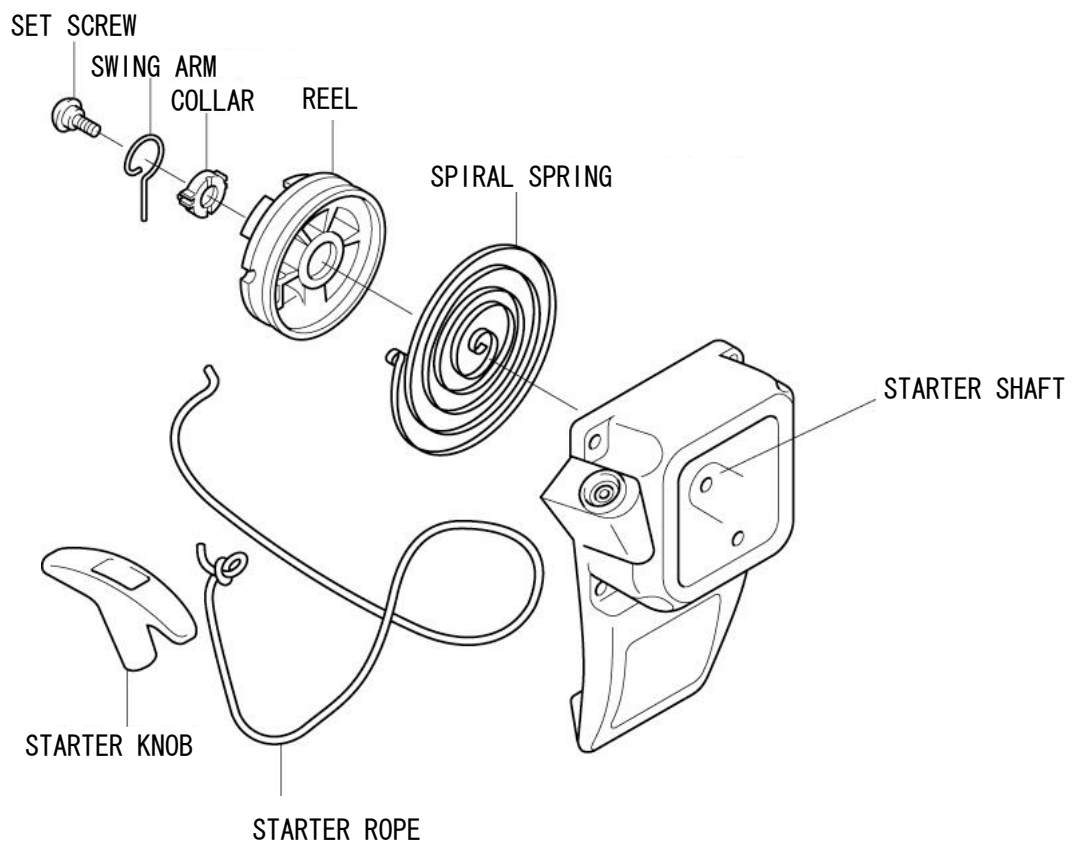

Fig.6-2
- (3) Remove the parts as shown in Fig.6-2.
(3) Before inserting the REEL in the STARTER CASE, wind the STARTER ROPE around the REEL three turns in the direction of the arrow shown in Fig. 6-5, draw out the third turn of the STARTER ROPE from the REEL cut-out, and fit the REEL completely inside the STARTER CASE so that the SPIRAL SPRING inner end can hook on the hook. then, hold the STARTER ROPE as shown in Fig. 6-5, and twist the REEL 4 to 5 turns in the direction of the arrow using the REEL cut-out. After the completion of winding, of the STARTER ROPE hold the REEL tightly to prevent the STARTER ROPE from winding back, pull the STARTER KNOB in order for the SPIRAL ROPE to tighten and then release the STARTER KNOB slowly. Reassemble the parts in reverse order of disassembly shown in Fig. 6-2. Tighten the SETSCREW firmly.